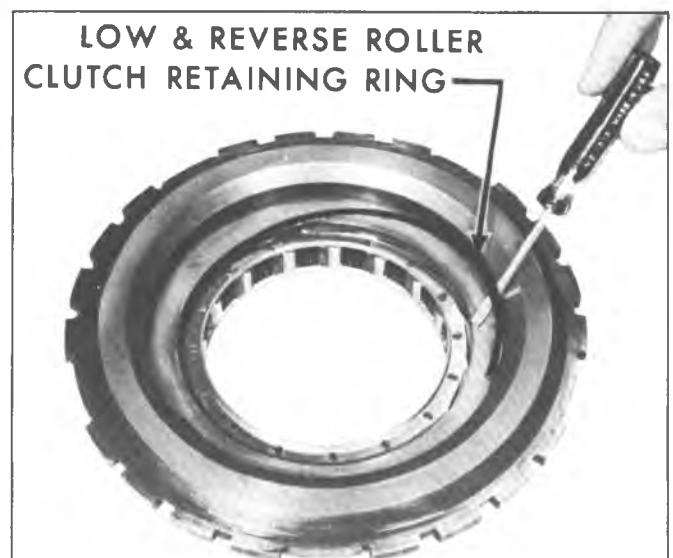

Fig. 91M--Removing Overrun Roller Clutch Retaining Ring
3. Remove low and reverse clutch roller clutch retaining ring (fig. 91M).